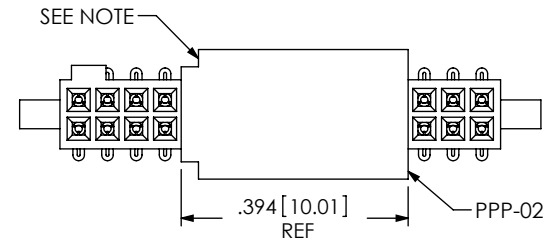

FIG 5
-P: PICK AND PLACE PAD (SEE FIG. 5, SHT 2)